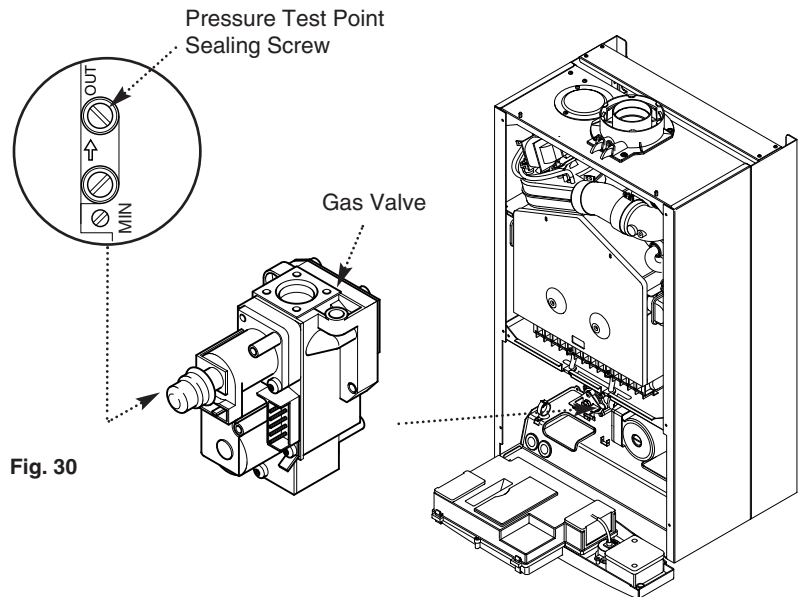

Fig. 30
3. Slacken the pressure test point sealing screw on the gas valve and connect a pressure gauge (Fig. 30).